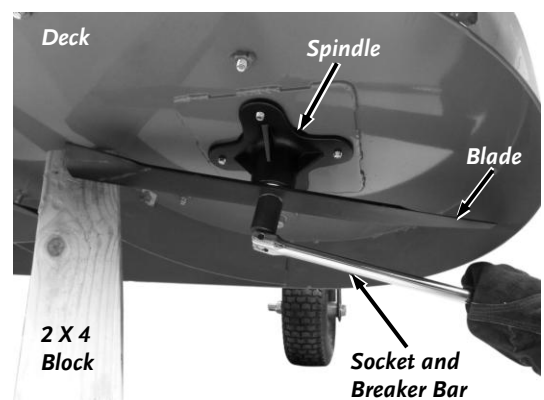

Figure 52
4. Remove the Bolts securing the Blades to Spindle using a 3/4" Socket and Breaker Bar. (**Figure 52**).